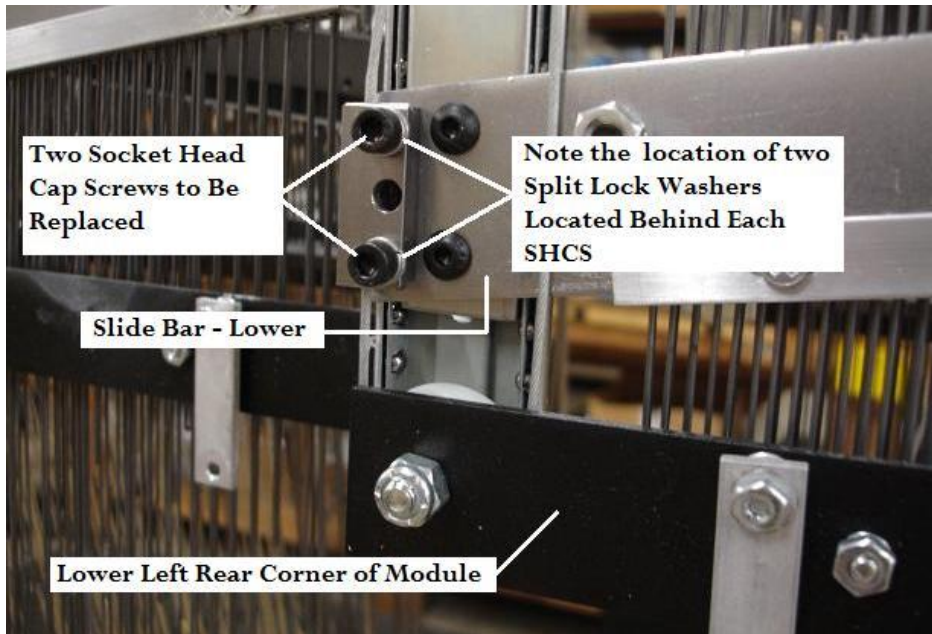

Figure 1 – Before Hardware Change
2. Locate the two SHCS located at the lower, rear corner of each Module (see Fig.1, below).